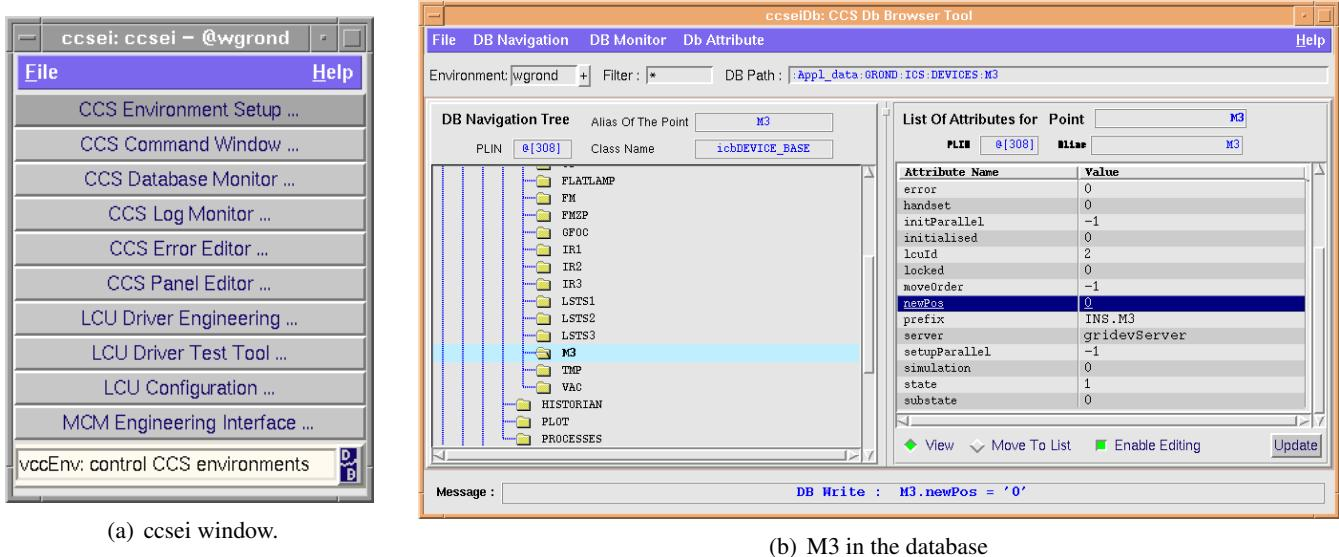

Figure 10.10: Writing the M3 position in the database
- Write the mirror position in the database (Fig. 10.10)